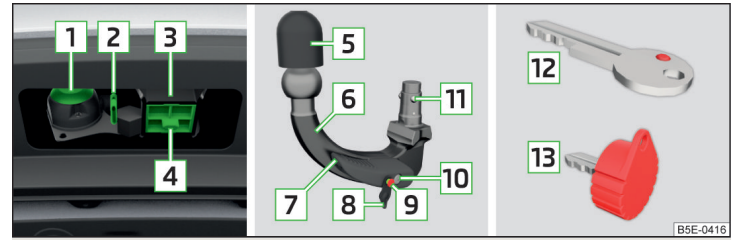

Fig. 166 Support for the hitch equipment / ball bar / key (Version 1 and 2)
Carrier for the towing device and ball rod » Fig. 166
- Remove the cover for the mounting recess **4** » Fig. 166 on page 169 in a downwards direction.